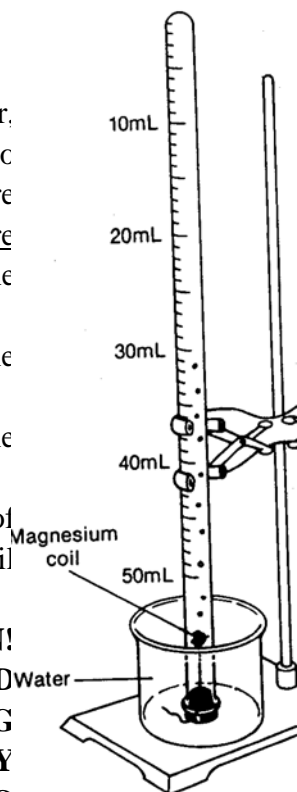

Figure 2
9. Cover the hole of the stopper with your finger, and invert the eudiometer into the 400 or 600mL beaker of tap water. Clamp the eudiometer tube into position on the ring stand, as shown in figure 2. The acid will begin to flow down the tube and react with the Mg.